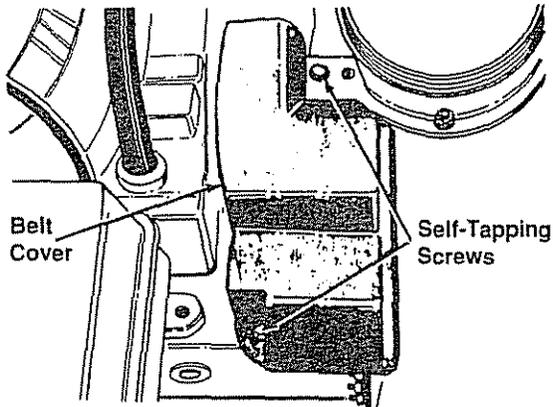

Figure 15
1. Remove the plastic belt cover on the front of the engine by removing the two self-tapping screws. See Figure 15.